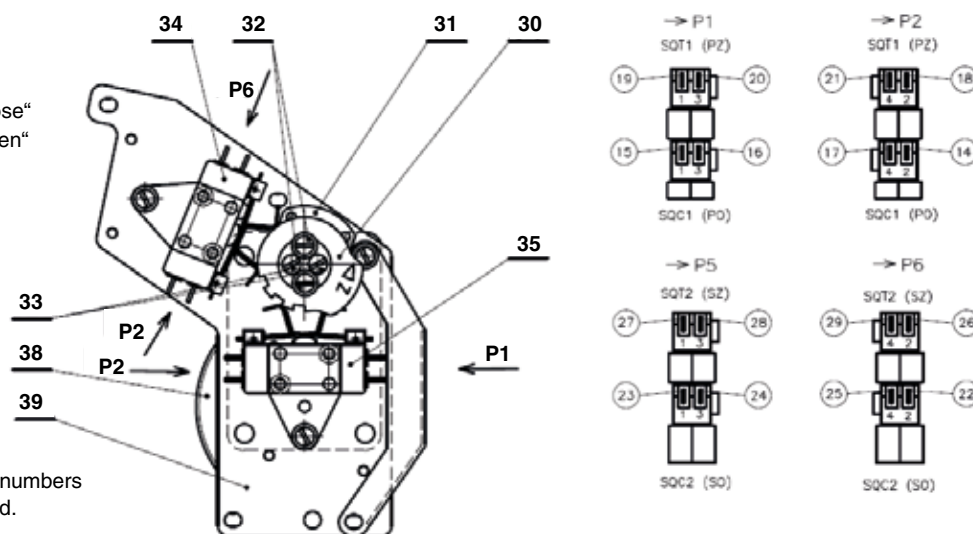

Fig. 3 – Position-limit switching and signalling unit
b) Position-limit switching and signalling unit - Fig. 3 – provides for tripping of the position-limit switches PO or PZ after the set number of revolutions of the output shaft has been reached and, by means of signalling switches SO and SZ, sending electric signal for signalization of position of the output shaft of the actuator. The unit drive is realized by gearwheel -38- from the output shaft via the multi-speed gearbox to cams controlling micro-switches PO, PZ, SO, SZ. The moment of closing of the signalling switches can be chosen at any point of the working stroke of the actuator except for a narrow range around the limit positions (the signalling switch must close before the position-limit switch when the output shaft is still in motion).
Layout of the cams and micro-switches of the position-limit switching and signalling unit is shown in Figs. 3 and 4. The cam shoulders control the levers of micro-switches PO, PZ, SO and SZ.